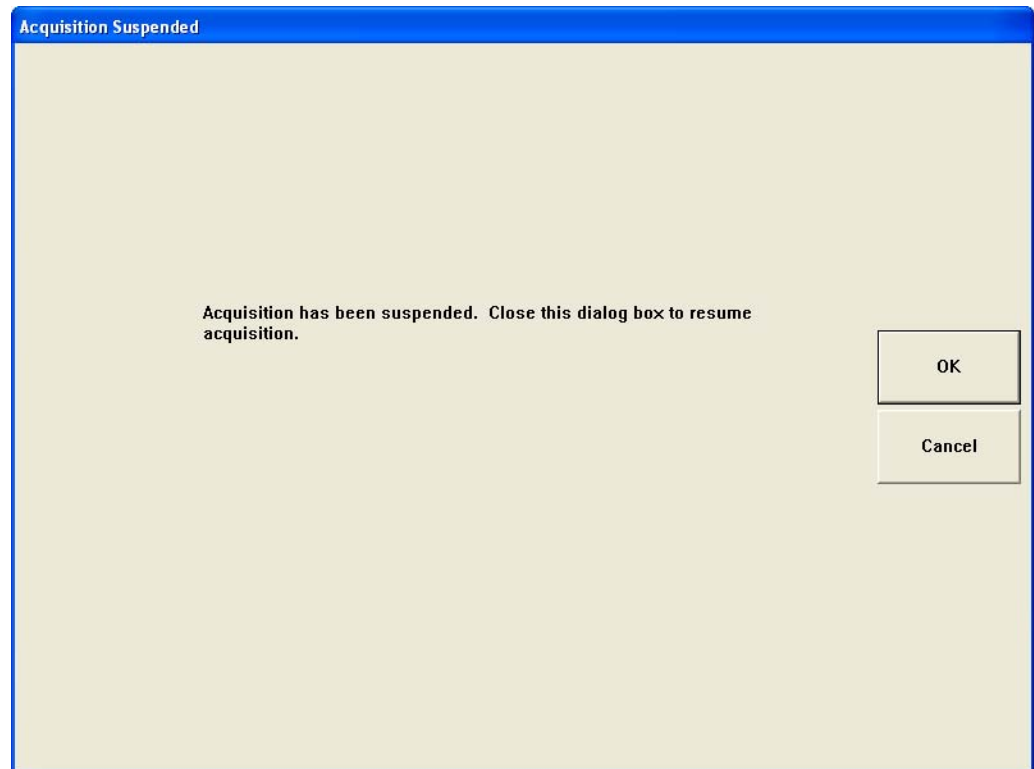

Figure F-1 Acquisition Suspended Screen
- If the GDxPRO is idle for an extended period of time while in any acquisition mode (approximately 16 minutes), the ACQUISITION SUSPENDED SCREEN (Figure F-1) will be